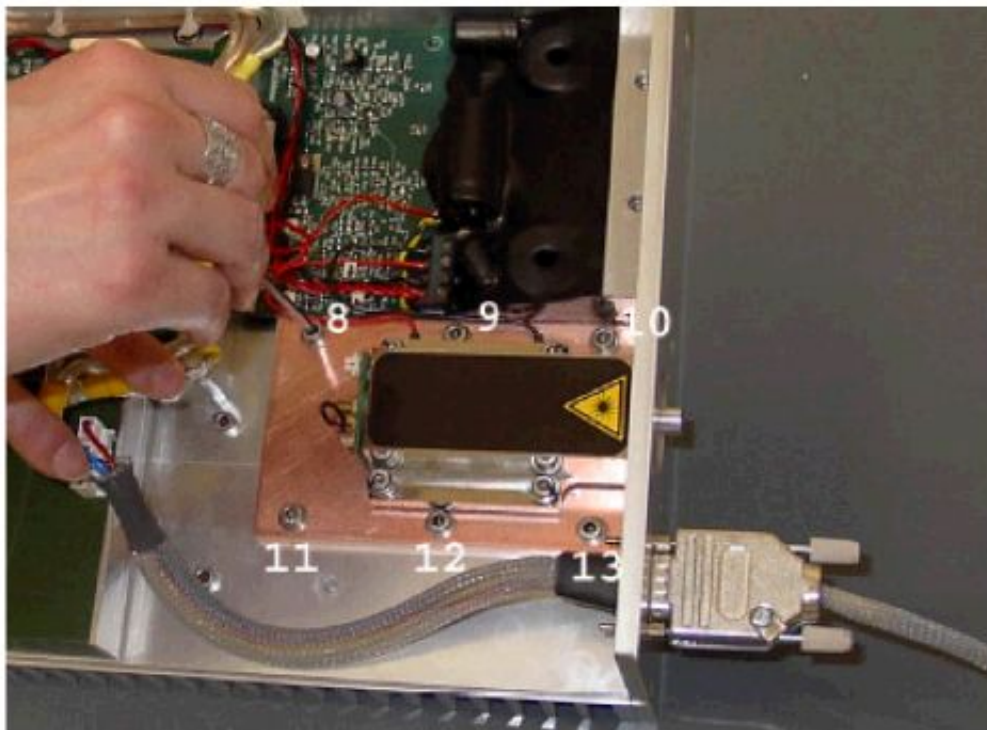

figure. 13
11) Unscrew the screws which hold the Peltier power supply black and red cables [fig.13]
13) Put on screws (8-9-10-11-12-13) of the diode laser copper plate.[as fig.13]